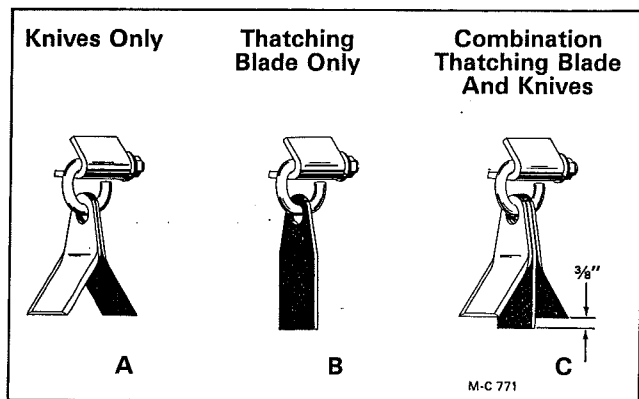

Figure 24 - FM Models - Above S/N 47197
1. Thatching blades can be installed between the two knives on the knife hangers (see "C" in Figure 24) or the knives can be removed and thatching blades alone installed on the hangers (see "B" in Figure 24).